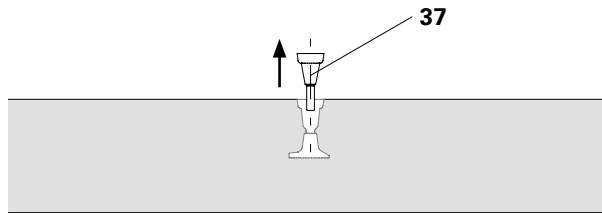

Fig. E1.01a
1. Release Screw-On Cone-2 M24/DW 20 (37) by means of socket wrench SW 36 and remove. (Fig. E1.01a)